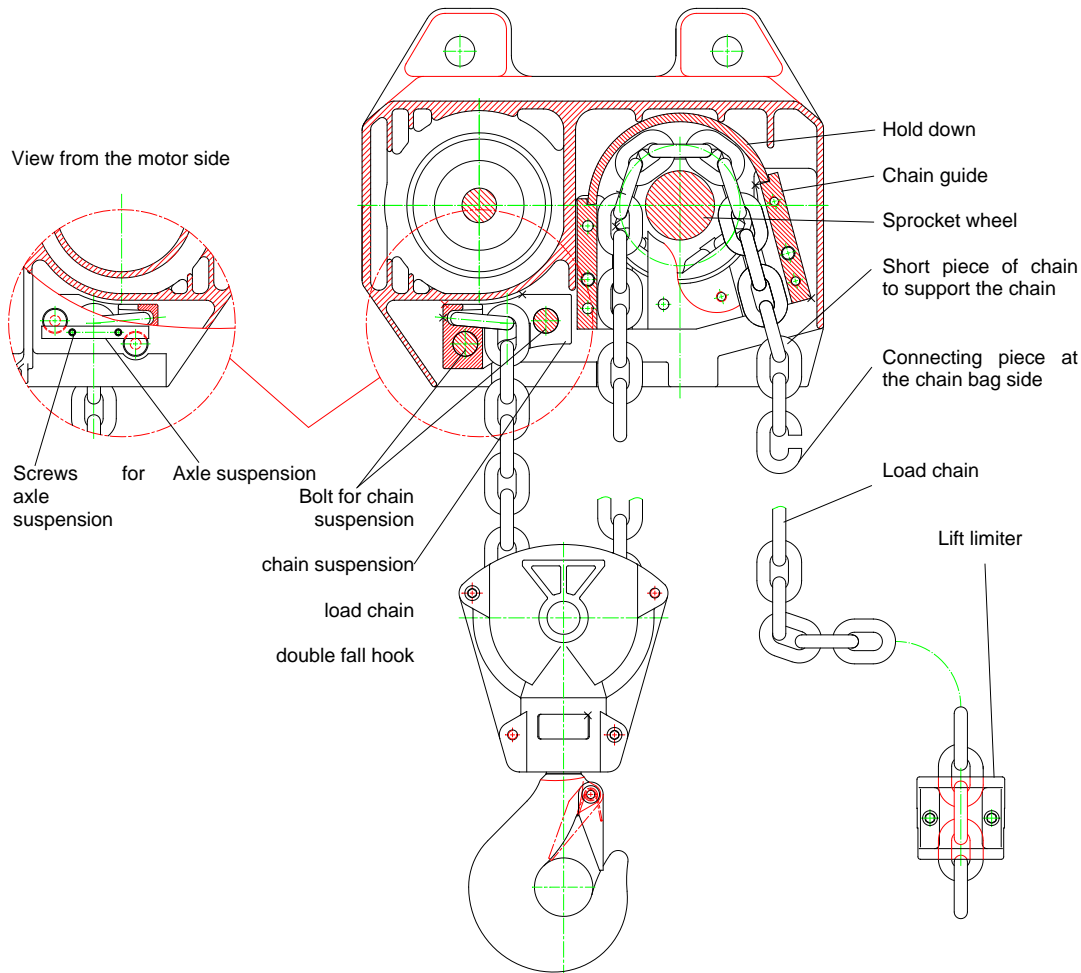

figure 12: Fitting the load chain for double fall version
**Caution!** Ensure that the load chain is not twisted between the chain guide of the hoist and the double fall hook. This would be dangerous. If it is not possible to fit the load chain according with figure 12 without being twisted one link has to be cut off.
26. Put the chain - coming out of the double fall hook – into the pocket of the hoist without being twisted between the double fall hook and the hoist (see figure 12).
If the assembly according with figure 12 is not possible one chain link has to be cut and removed to allow correct assembly.